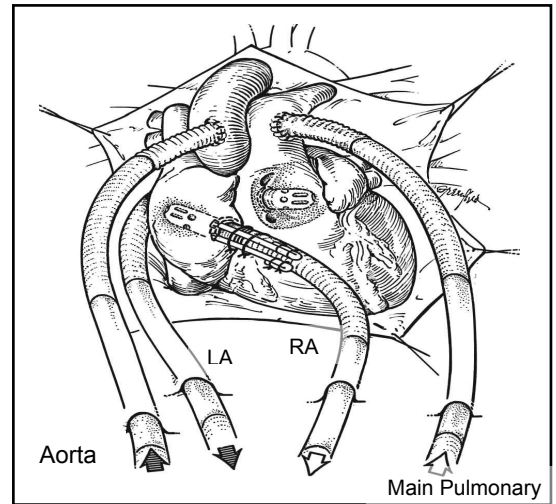

Figure 2
3. Care should be taken to assure, with chest closure, cannulae do not cross over each other or occlude graft sites. **(Fig.2)**